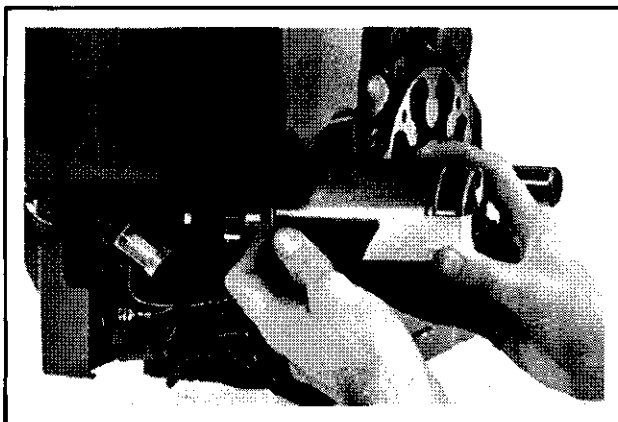

Figure 12A-36. Installing Starter.
3. Install the starter to bearing plate, and install the top thru bolt. Refer to Figure 12A-37. Leave the bolt slightly loose.